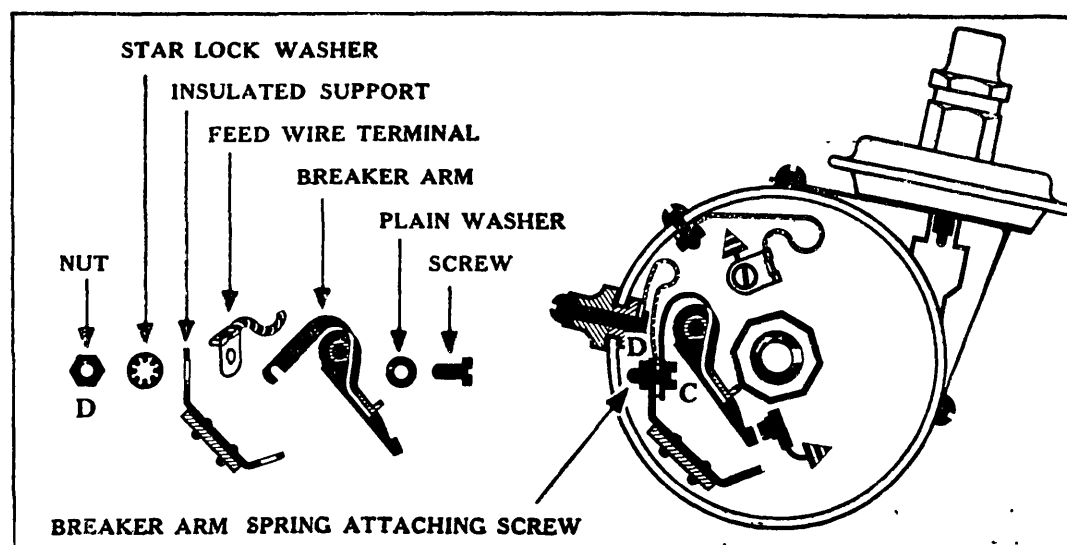

Fig. 4
4. Loosen breaker arm spring attaching screw ("C", Fig. 4) just enough to permit the breaker arm and spring to be lifted up and out of the distributor.
IMPORTANT: Do not run nut ("D", Fig. 4) entirely off of screw "C", as much time will be saved when assembling the distributor if this group of parts is already in place